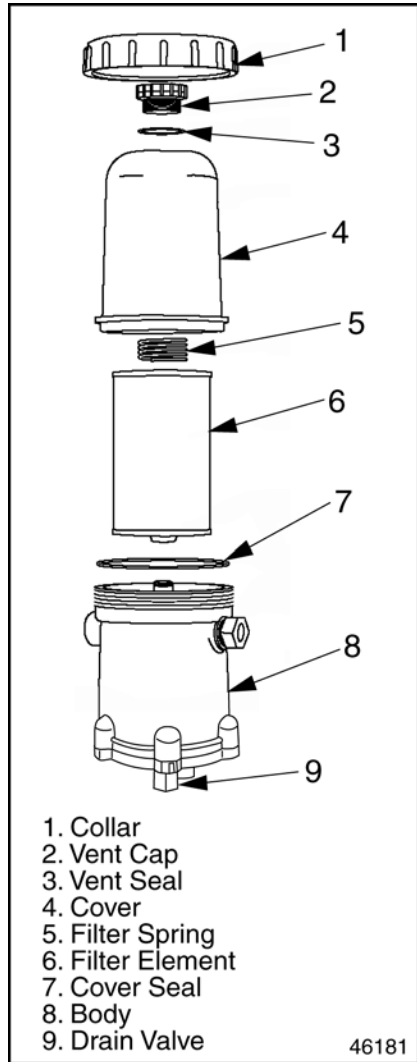

Figure 39 Davco 382 Fuel Pro®Fuel/Water Separator
1. Remove the vent cap, open the drain valve and drain fuel into approved container, until level is below the collar. See Figure 39.